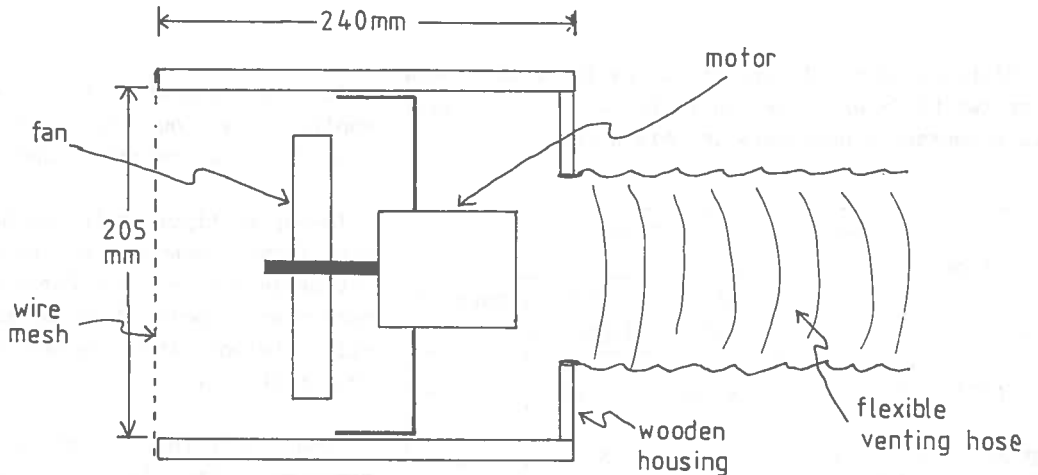

Fig.3. Fan housing
The fan (item 344) has 18 cm diameter and is driven by a quietly running Smith's 12V dc motor. This motor has mounting brackets with flanges which protrude out on two opposite sides of the fan. The fan is unguarded and as supplied is unsafe. It is therefore essential to construct a guard. This might be done by enclosing the entire mechanism, fan and motor, in a wooden box (Fig.3) with wire mesh at the front and flexible venting hose at rear.